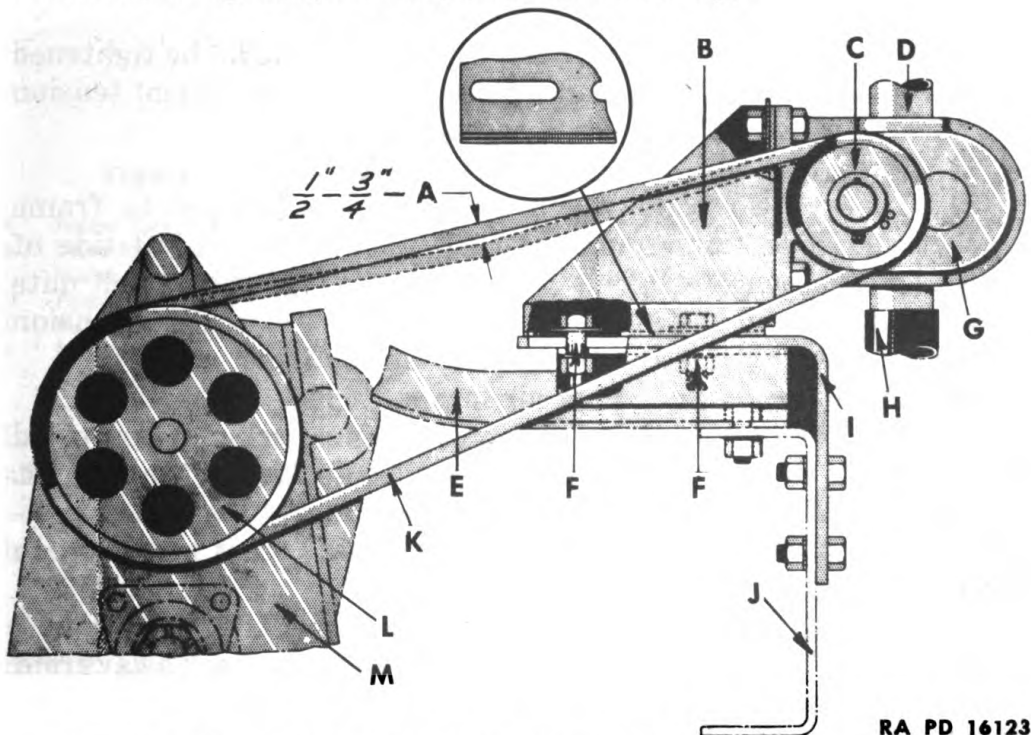
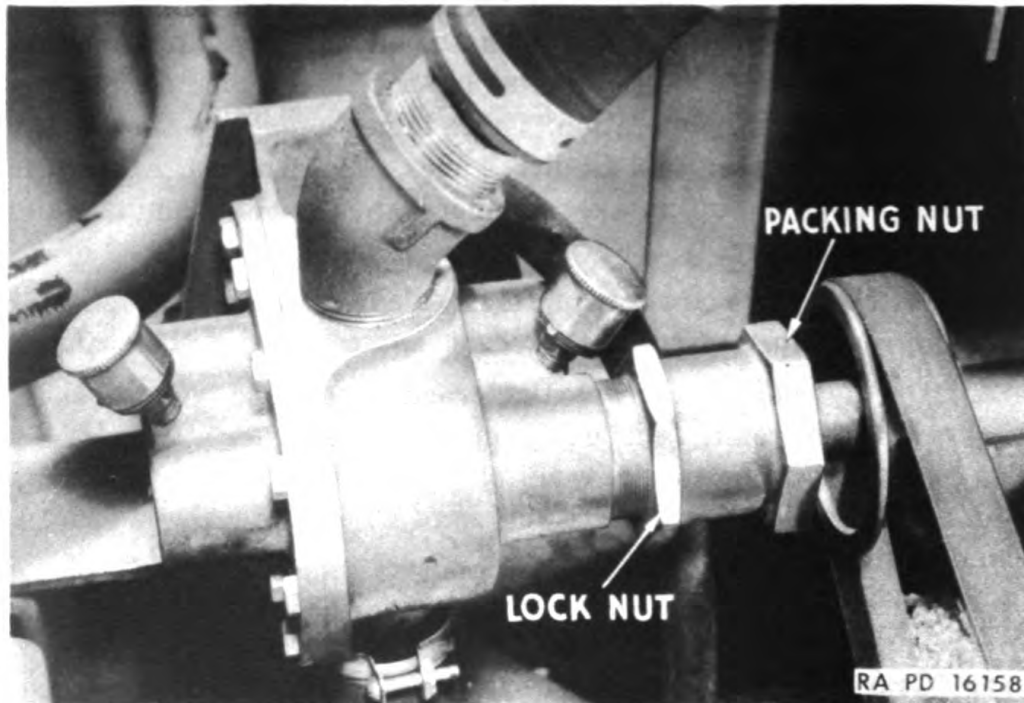

Figure 150—Gear Bilge Pump Mounting and Drive Adjustment
Figure 151—Gear Bilge Pump Packing Adjustment
b. **Gear Bilge Pump Drive Belt.** Drive belt should be tightened whenever inspection shows that belt does not have sufficient tension as indicated in Fig. 150. Proceed as follows:
- (1) Remove center section of air intake grille.
- (2) Loosen two bolts which mount pump bracket to frame bracket and slide pump and mounting bracket toward left side of vehicle to take up slack in belt. Tighten mounting bracket bolt nuts while holding pump and bracket in new position. Check belt tension as indicated in Fig. 150 and readjust if tension is not correct.
- (3) Install center section of air intake grille.
b. **Gear Bilge Pump Drive Shaft Packing.** Packing is provided around pump shaft at pulley end to prevent leakage at this point. Packing should be tightened whenever an excessive amount of leakage occurs around shaft. A small amount of leakage is necessary to prevent overheating of shaft. Refer to Fig. 151.
- (2) Loosen lock nut with wrench KM-J-2342 and back away from packing nut a few turns. Tighten packing nut until leakage is reduced but not entirely stopped. Tighten lock nut against packing nut securely.